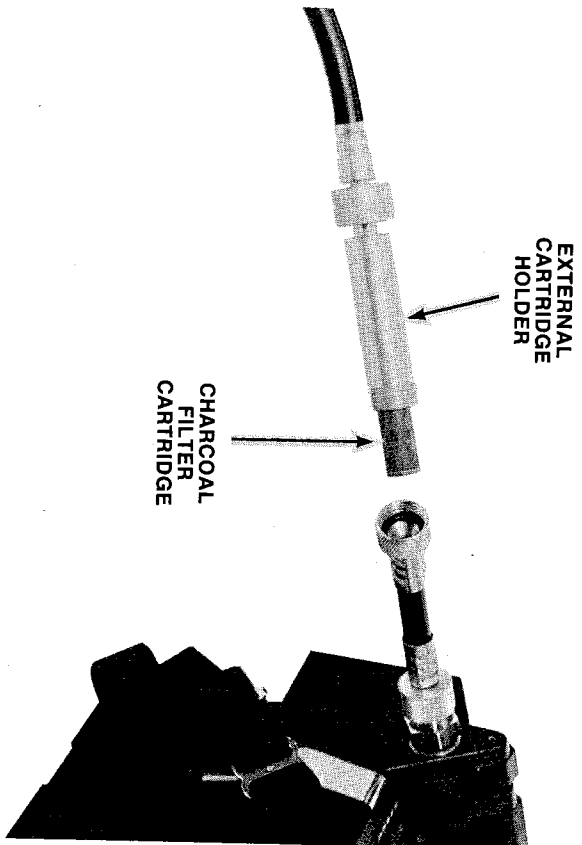

Figure 2-3. Connection of External Cartridge Holder
3. Remove caps on both ends of activated charcoal filter cartridge and insert cartridge in external cartridge holder, Figure 2-3.